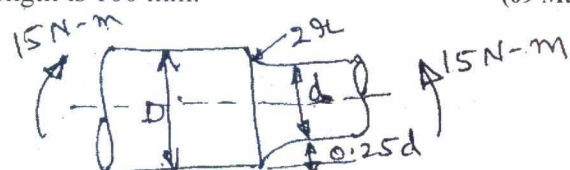

Fig. Q2 (c)
- c. A round shaft made of ordinary Grey C.I. FG 200 is subjected to a bending moment of 15 N-m as shown in Fig. Q2 (c). The theoretical stress concentration factor at the fillet is 1.5. Determine the diameter 'd' and the maximum stress at the fillet. (06 Marks)